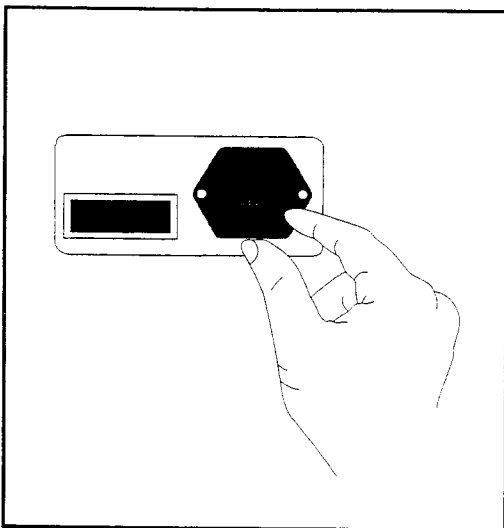

Figure 4-1
- Step 1 Remove the fuse holder by pushing in on the small tabs on the sides of the holder as shown in Figure 4-1. (Or pushing down from the top. See Figure 4-3.)